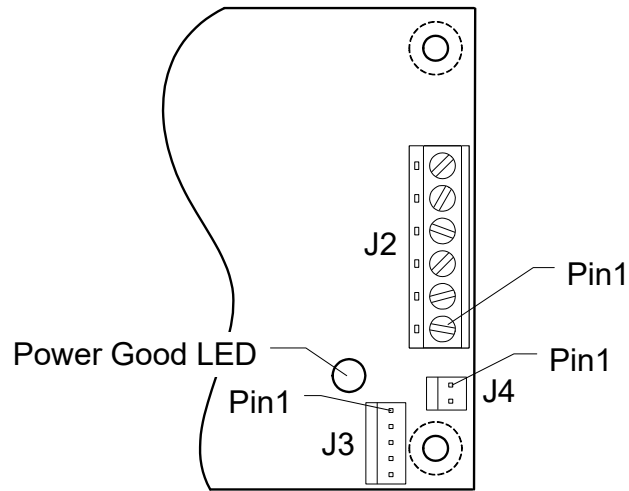

**Figure 4-3 XL125/160-1DC, -8DC Output Connectors Layout**
**The pin-1 location differs amongst connector manufacturers. Sometimes pin-1 differs between the header (on the power supply) and the mating housing from the same manufacturer. Disregard the manufacturer's pin-1 location and follow only the pin-1 locations in Figure 4-3.**
- Refer to Figure 4-3 for connector and pin-1 locations